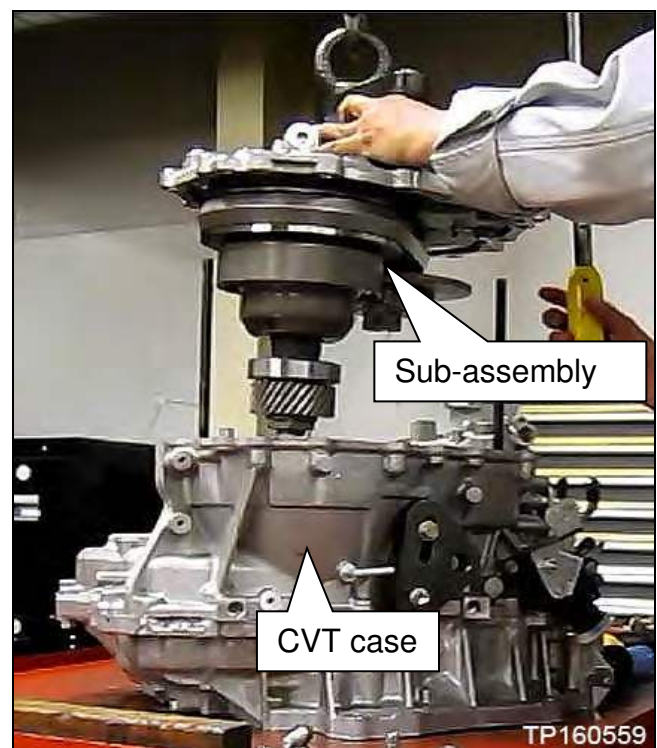

Figure 13F
11. Raise the Lifting Fixture to remove the “side cover with pulleys and belt sub-assembly” (sub-assembly) from the CVT case (Figure 13F).